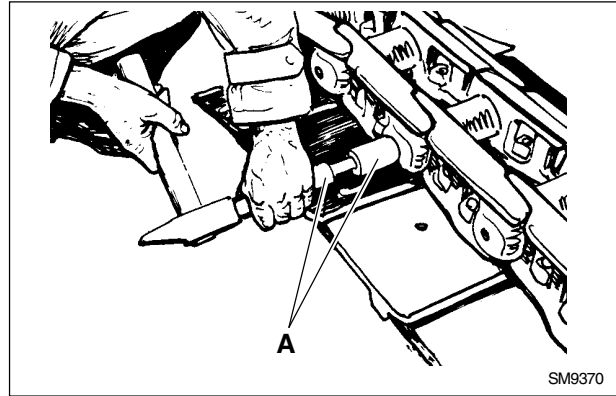

Fig. 5-17
2. Press the rubber plug into the pin hole using tool (A fig. 5-17). Take care in positioning the plug inside 8 to 10 mm (0.315 to 0.393 in) from the rim of the pin.